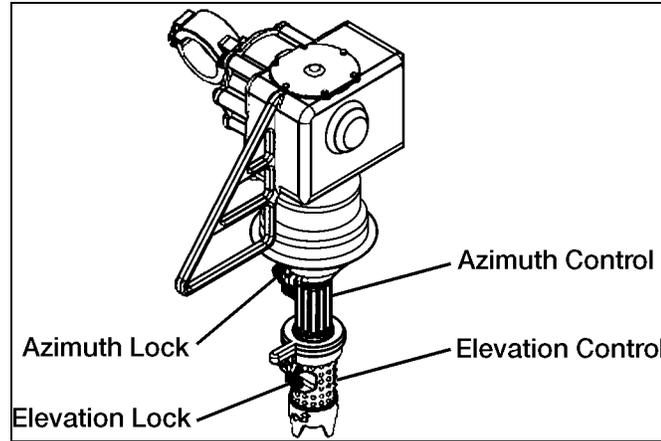

Figure 3-81. Pan/Tilt Mechanism
- (7) Set scene POLARITY switch to either WHT-HOT (up position) or BLK-HOT (down position).
- (8) Set azimuth position by rotating Pan/Tilt Mechanism (PTM) (see Figure 3-81) to desired setting. Lock azimuth locking mechanism.
- (9) Set elevation position to desired position. Lock elevation locking mechanism.